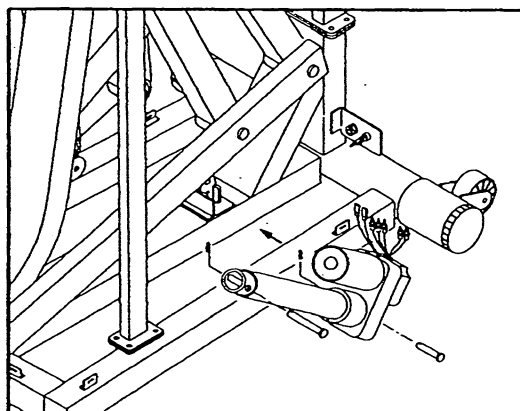

Fig.9-3
1.Replace a new ELEVATOR MOTER and secure it by two bolts (see fig.9-3).